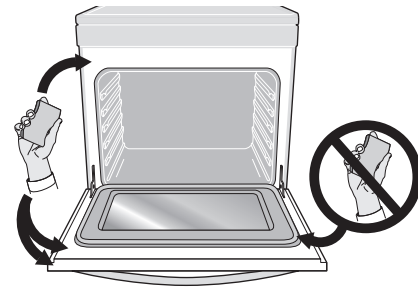

Figure 11: Areas to clean and areas to avoid (gasket)
- Do not spray oven cleaners or oven protective coatings in or around any part of the oven interior. Clean any soil from the oven frame, the door liner outside the oven door gasket, and the small area at the front center of the oven bottom (Figure 11). These areas heat sufficiently to burn soil on. Clean using soap and water prior to starting Self Clean.